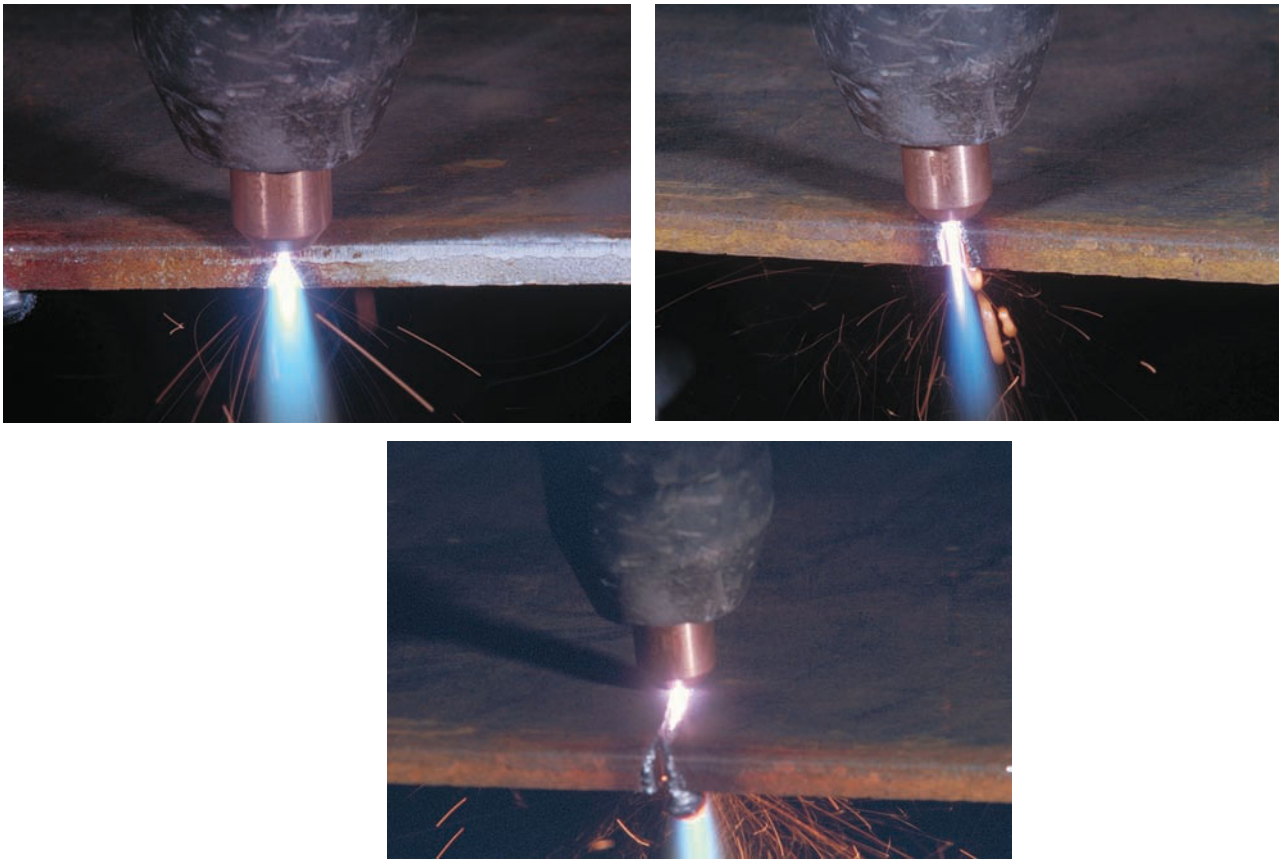

Figure 7.32 Flat, straight cut in thin plate
3. Move the torch in a straight line down the plate toward the other end, Figure 7.32.